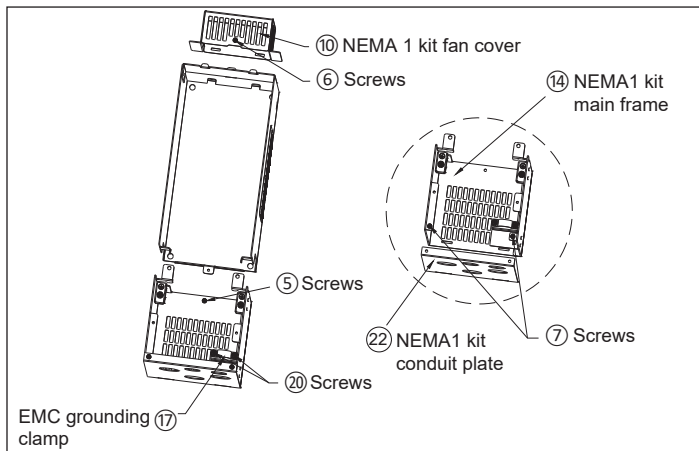

Figure 14. Removing the conduit box, fan cover, and conduit plate.
Remove the screw ⑤ and disassemble the conduit box (see Figure 14).
Remove the two screws ⑳ and disassemble the EMC grounding clamp ⑰ (see Figure 14).
Remove the two screws ⑥ and disassemble the NEMA 1 kit fan cover ⑩ (see Figure 14).
Remove the two screws ⑦ and disassemble the NEMA 1 kit conduit plate ㉒ (see Figure 14).